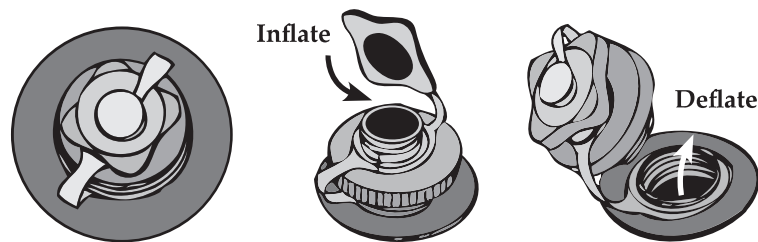

Figure 1. Inflate/Deflate Boston Valve
The iEscape 110 kayak uses standard Boston valves. This common valve has great function and durability and is compatible with most standard pumps. The following illustrations in *Figure 1* show how to operate your valves.
1. Unscrew the valve bodies from chambers 1, 2, and 3 to allow the air to rush out. (See Figure 1)